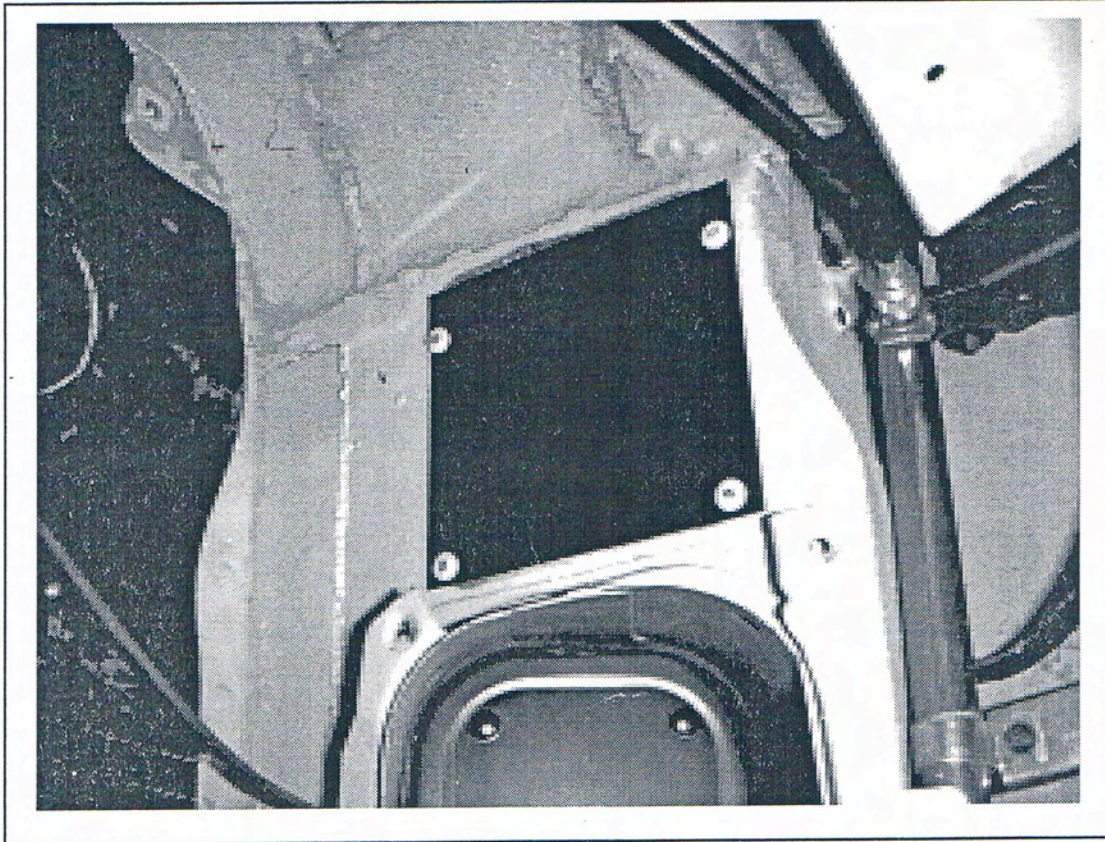

FIGURE 2
9. Secure passenger side vent cover with original hardware. **(FIGURE 2)**